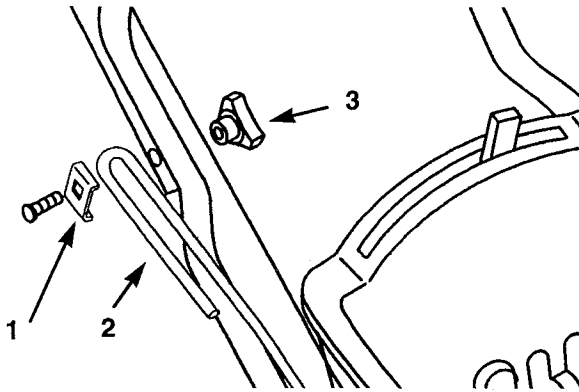

Figure 75
- C. Install the U-shaped end of the mounting rod against the outside of the mower handle, using the new bracket and the original bolt and handle knob (Fig. 75). Make sure the curved sides of the bracket fit around the mounting rod.